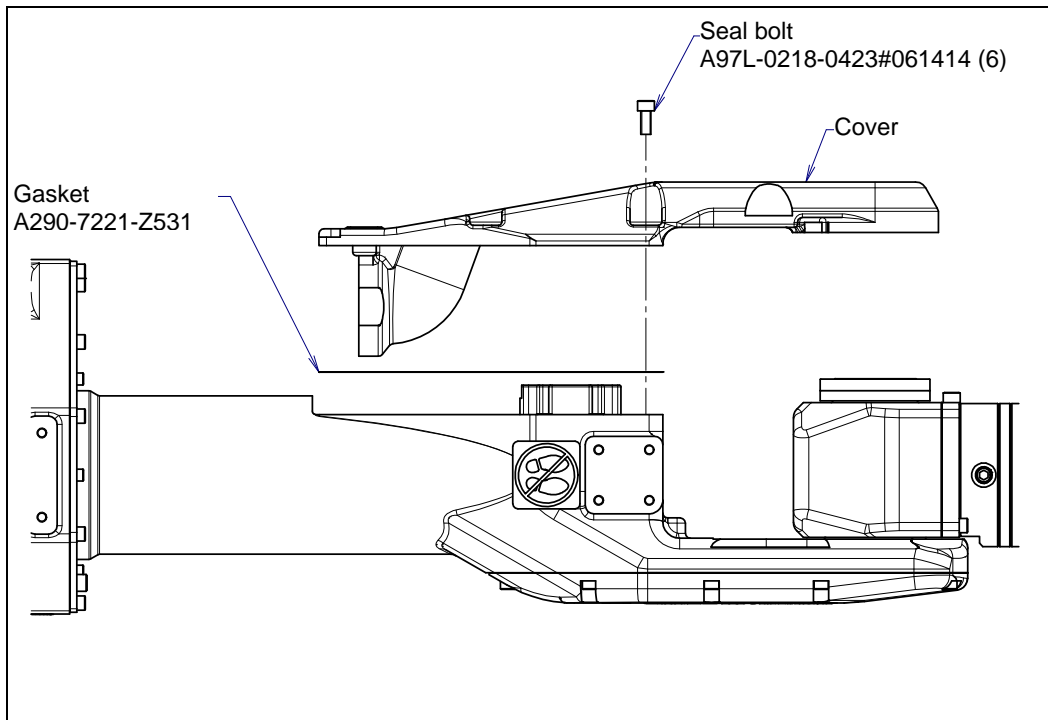

Fig. 8.4 (c) Replacing cable kit (J3 arm part) (10M/10MS)
- 8 Remove the bolts M5 x 20, the J6-axis reducer which the motor is attached. (Refer to Fig. 8.4 (d).)